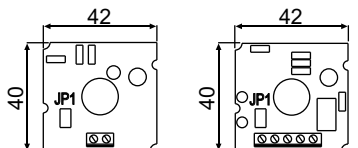

Fig. 2
- Feed the cable in through the back of the unit and make connections as shown in figure 2.